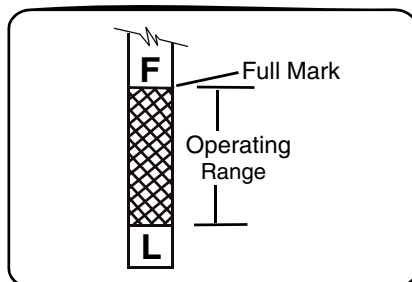

Figure 24
- Remove the dipstick and check the oil level. The oil level should be up to, but not over, the 'F' mark on the distick. See Figure 24.